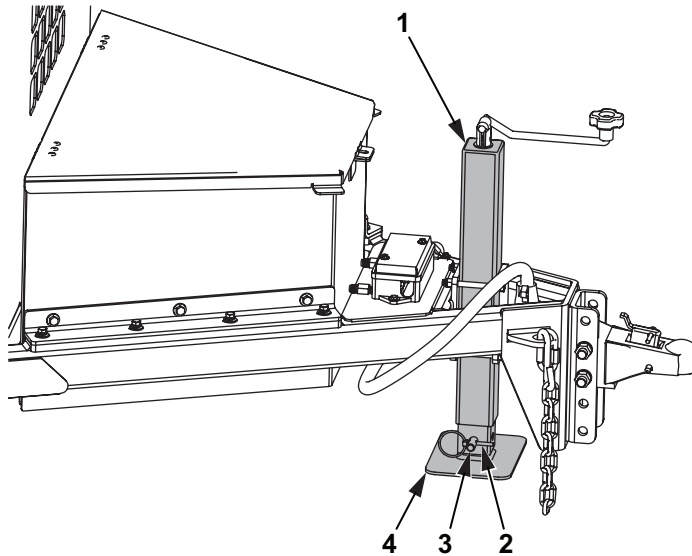

Figure 5 Drop Leg Jack and Foot Plate
7. While firmly holding the lower part of the drop leg jack (Figure 5, Item 1), remove the foot plate (Figure 5, Item 4), detent clip (Figure 5, Item 2), and keeper pin (Figure 5, Item 3) with attached chain.